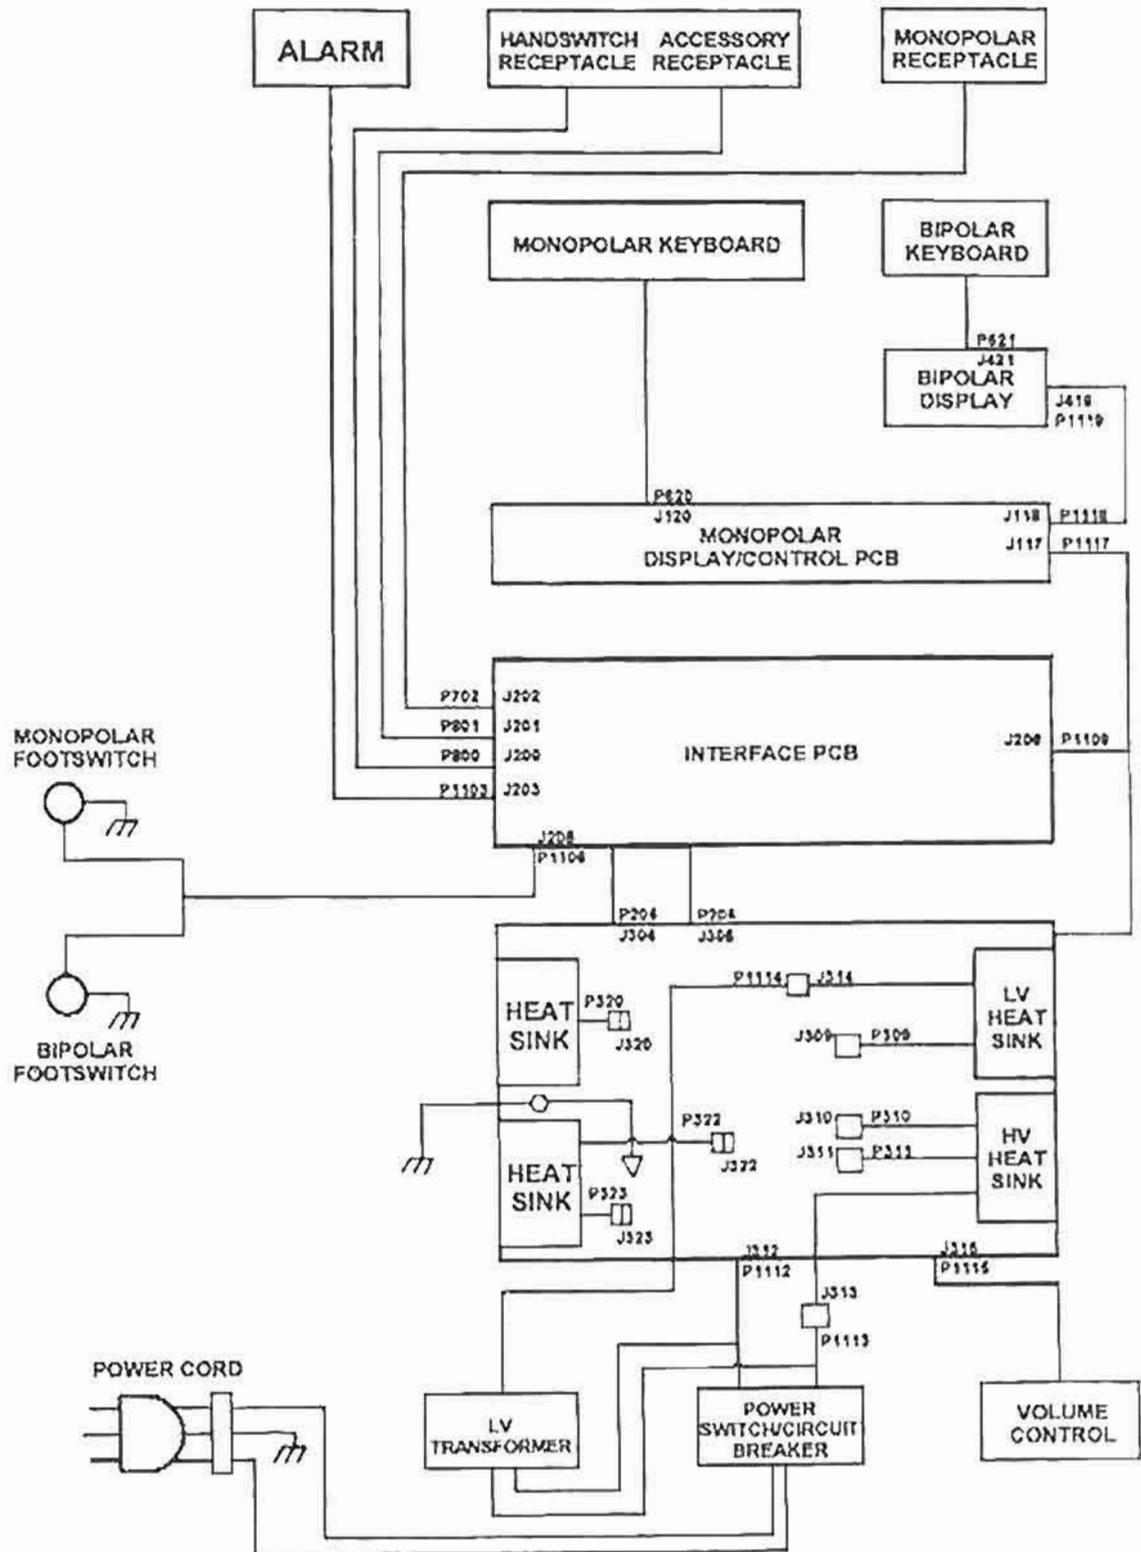

Figure 3-21. System diagram.
d. The system diagram depicts the relationship between PCBs, switches, operational controls, and other major components. Refer to figure 3-21.